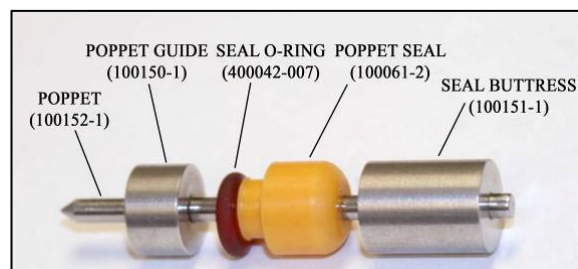

Figure 5
11. Apply a light coat of Food Grade Lube (400034-2) to the red Seal O-Ring (400042-007) and slide over the Poppet Seal (100061-2) groove. **See Figure 5**
12. Apply a light coat of Food Grade Lube to the shaft of the Poppet (100152-1). **See Figure 5**
13. Slide Poppet Seal (with O-Ring installed) half way down the shaft of the Poppet with the Seal O-Ring facing tip of Poppet. **See Figure 5**
14. Slide the Seal Buttress (100151-1) on the poppet shaft with the concave surface facing the Poppet tip. Slide the Poppet Guide (100150-1) on the opposite end of the poppet shaft. **See Figure 5**